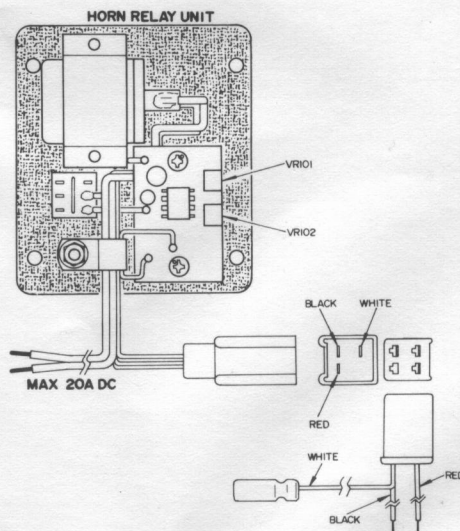

Figure 8.
- (3) Inside the FHR-1 are two miniature potentiometers, shown in Figure 8. VR₁₀₁ controls the ON time of the beeping horn; while VR₁₀₂ controls the OFF time. Either control provides an adjustment range of 2 to 25 seconds in the on and off times.
- (4) The customer should be educated in the importance of being able to turn off the horn relay quickly, so as to minimize the disturbance to others. Also, discuss with the customer the importance of maintaining good connections to the HORN RELAY jack, etc., so as not to induce false triggering of the horn.